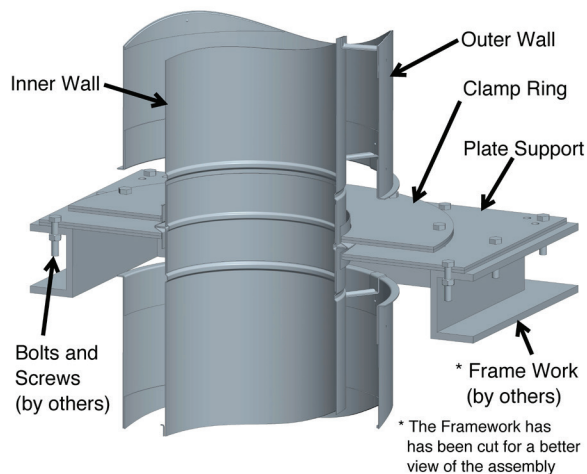
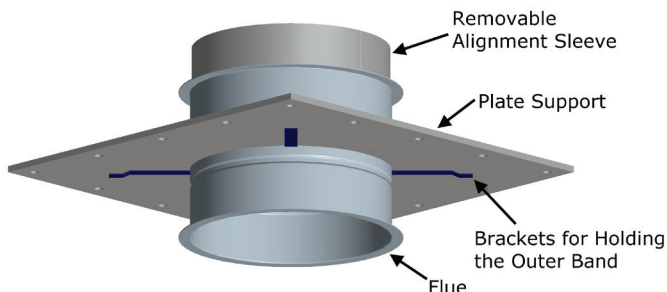

Figure 41a - Anchor Plate on Framing
Figure 43 - Anchor Plate with Length (APL)
The APL is an anchor plate integrated on a length. It cannot be used as a fixed support for vertical or horizontal installation because the anchor plate is free to move on the longitudinal axis of the length. Refer to the Anchor Plate (AP) for all the warnings / details, except for the installation. See **Figure 43** for detail of APL.
CAUTION: Small brackets must be on the bottom side so these can hold the outer band (BSE) against the support plates and to make sure the anchor plate is positioned in the middle of the inner wall when installed. See **Figure 43 to 46.**
NOTE: In the case of an Anchor Plate (AP), refer to **Figure 41a and 41b** for installation. For the Anchor Plate with Length (APL), Refer to a **Figure 43 to 46**. If it is not possible to suspend the Tee, it may be supported from the base (See **Table 5**) for maximum height for a base Supported Tee. When this type of support is necessary, access to the drain cap may be hindered. A structural steel stand can be used to allow access to the Tee Cap (TC) or Drain Tee Cap (DTC).
NOTE: In the case of an Anchor Plate (AP), refer to **Figure 41a and 41b** for installation .